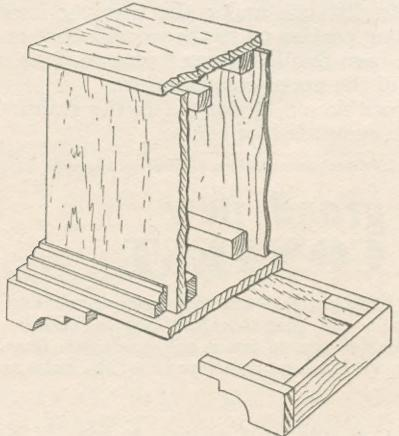

Fig. 1—The lowest case in broken section
Take the floor A as a foundation, and build upon it the upright pieces A, B, C and D. The two sides (C) stand behind the front (B) and the plywood back (D) comes between them. It is best to have some 1 in. square deal in strips in order to cut off odd lengths of 2 or 3 in. to form strengthening blocks which can be put inside the angles to stiffen the whole thing up. A cut-away view of this lower box is given at Fig. 1.
Raising this base we have strip feet $\frac{3}{8}$ in. thick and $1\frac{1}{2}$ in. wide. The back and two side portions are plain pieces of wood. The front ones are short strips with fancy ends. To make the appearance of a further member, these feet portions are glued with a slight projection beyond the actual base. There is about $\frac{1}{2}$ in. all the way round, and this can be seen also in Fig. 1.